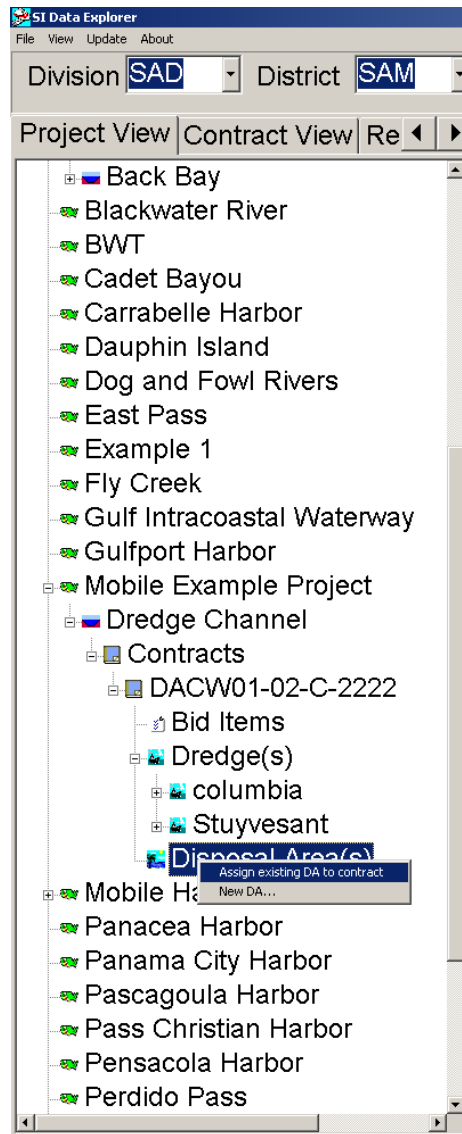

Figure 1.31 Right click on Disposal Areas
1. Right Click on *Disposal Areas* just below the contract number as seen in Figure 1.31 and select *Assign existing DA to contract*.
1. Right click on **Disposal Areas** as in Figure 1.31.